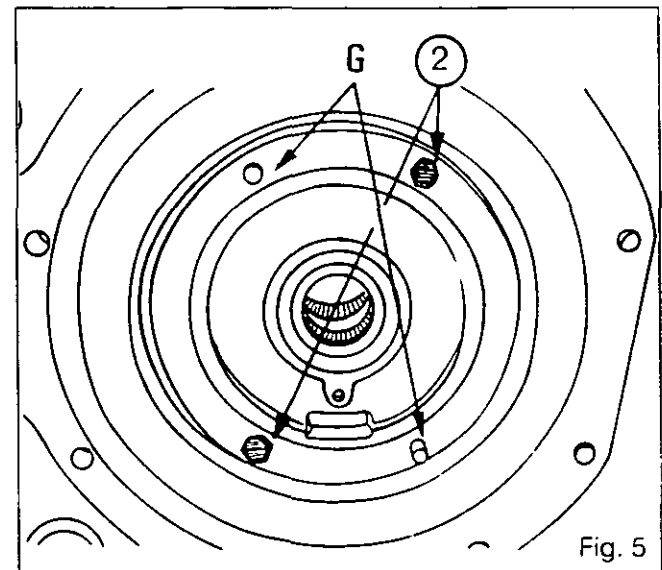

Fig. 5
- 15. Fit the O-ring (1).
- 16. Screw in two guide studs «G» diagonally opposite on the housing (Fig. 5).
- 17. Refit the spring (6), the sliding coupler (7), the thrust washer (11) and the carrier (9).
- 18. Fit and tighten two screws (2) to a torque of 85 - 130 Nm. Remove the guide studs. Fit and tighten the two other screws to the same torque (Fig. 5).